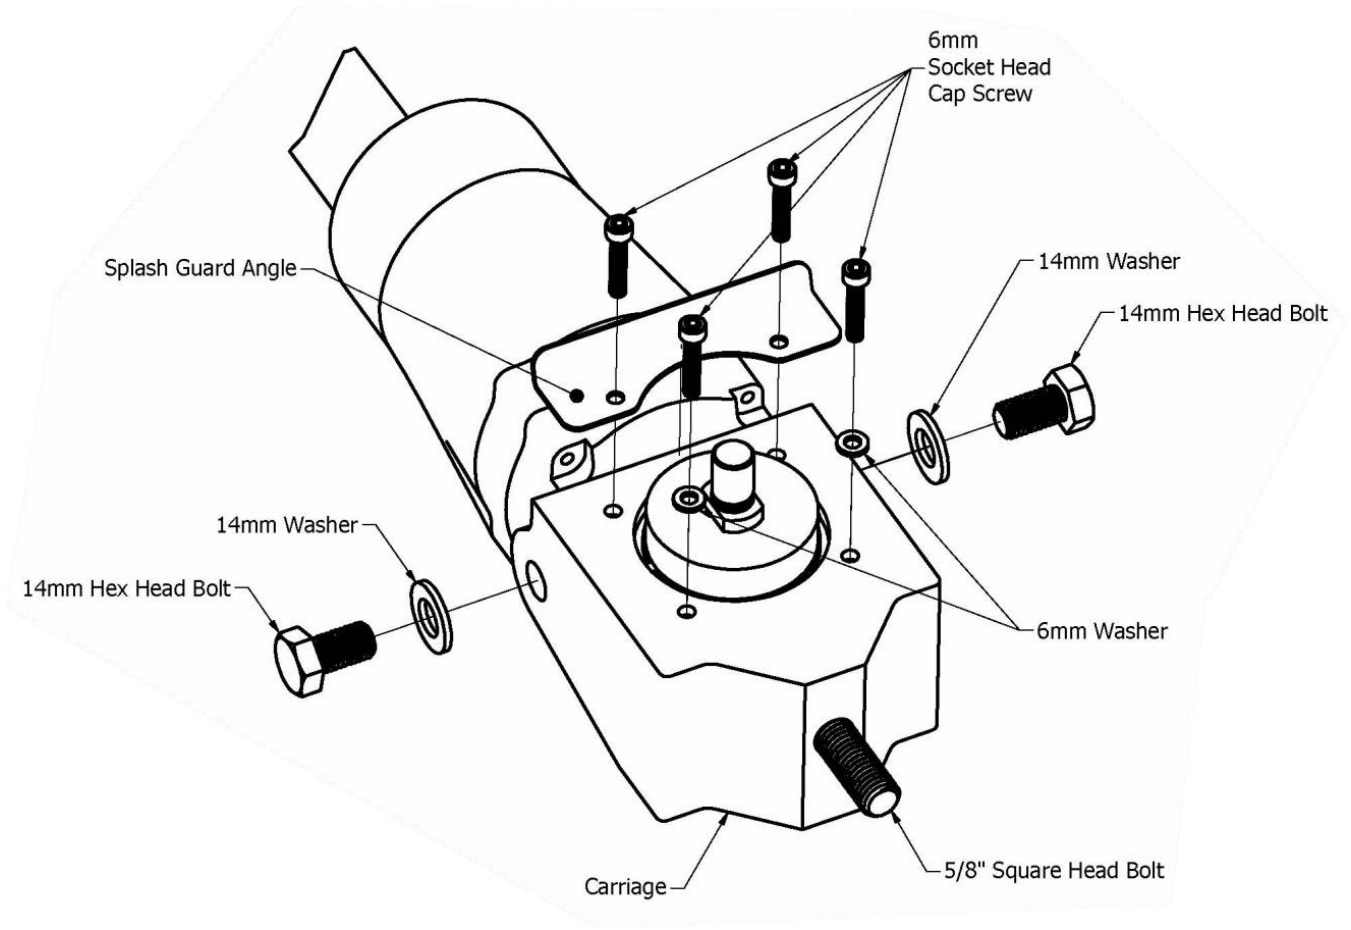

FIGURE 4 – Install Grinder into Carriage
6. With the 5/8" bolt inserted into the carriage, place the carriage over the head of the grinder (see Figure 4).
7. Using a 5mm Allen or hex wrench, install quantity (2) of the supplied 6mm socket head cap screws through the splash guard angle, and through the carriage holes closest to the grinder body into the grinder head holes exposed in step 4 above (see Figure 4). Do not tighten until all screws and bolts have been started.
8. Using a 5mm Allen or hex wrench, install quantity (2) of the supplied 6mm socket head cap screws and 6mm washers through the remaining carriage holes into the remaining grinder head holes exposed in step 4 above (see Figure 4). Do not tighten until all screws and bolts have been started.
9. Using a 22mm open end wrench or Crescent wrench, install quantity (1) 14mm hex head bolt and 14mm washer through the large holes on the side of the carriage and into the threaded holes on the side of the grinder head. Install these bolts on both sides of the carriage. Do not tighten until all screws and bolts have been started.
WARNING: Do not let water into the motor of the electric grinder. Water inside the machine will weaken the electrical insulation of the motor and may result in electric shock. Ensure the splash guard angle is installed at all times during use (see Figure 4) .